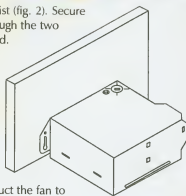

Fig. 2
- Locate the housing next to the joist (fig. 2). Secure the housing directly to the joist through the two holes and two keyhole slots provided.